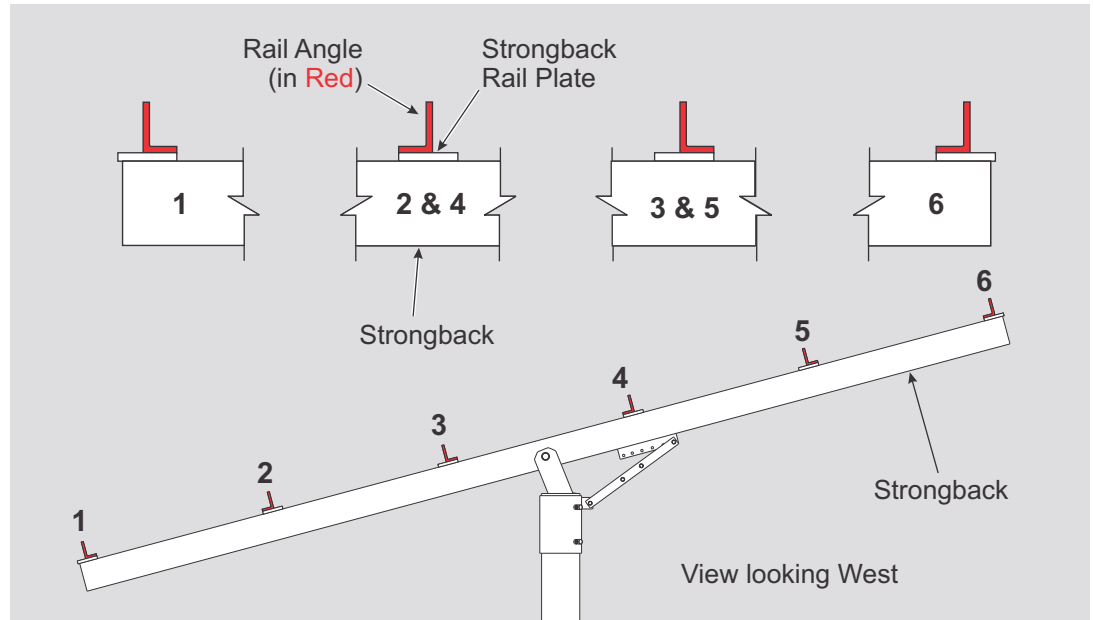
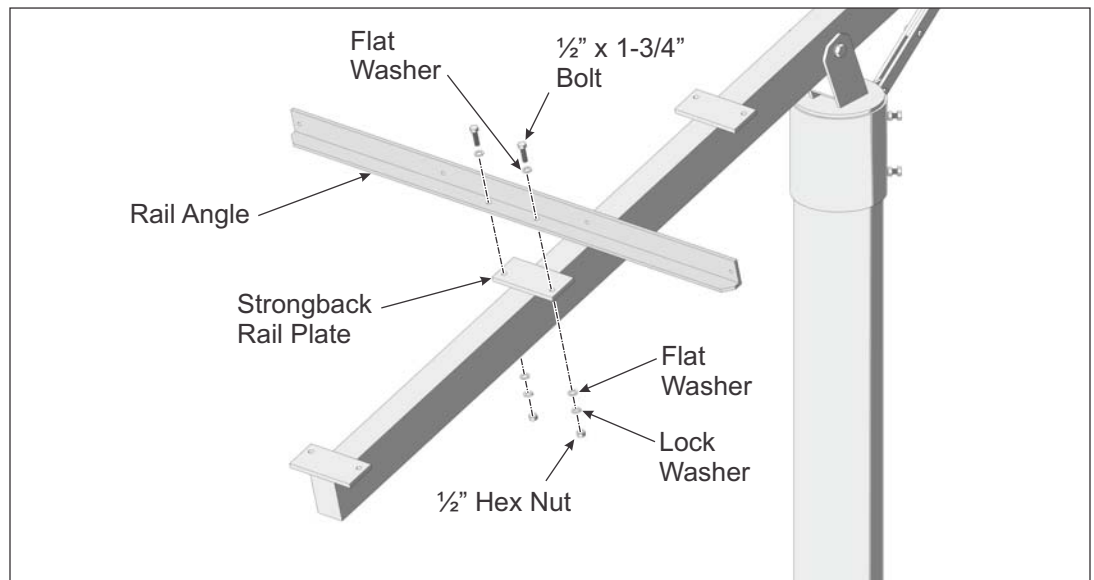

Figure 3-1: Orientation of Rail Angles to Strongback
Figure 3-2: Installing Rail Angles to Strongback
Rail Angles run in an E-W direction and are secured to the rail plates (welded to the Strongback) using the 1/2" x 1-3/4" bolts and hardware. Proper orientation of the Rail Angles to the Strongback is very important. Follow these instructions carefully (See Figures 3-1 & 3-2). There are 6 Rail Angles to install.
- A. Referring to Figure 3-1 for orientation of the Rail Angles, position the Rail Angle on the Rail Plate of the Strongback and secure with 1/2" x 1-3/4" bolts and hardware. Finger tighten for now. (See Figure 3-2)